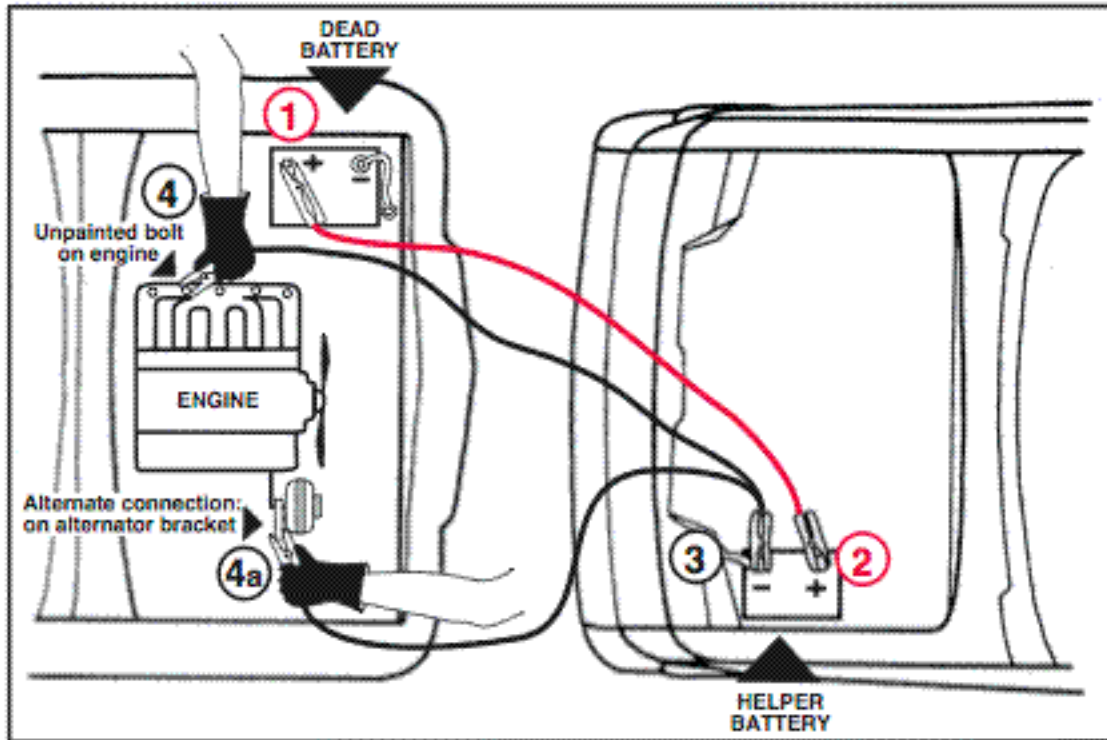

Fig. 1: Proper order for jump-starting car
STEP 5: Identify battery terminals or jump start terminals, if your battery is not in the engine compartment (*Fig.1*):
STEP 7: Connect a red (positive) cable to the dead car's positive battery post or positive jump-start terminal. See Fig. 1, Step 1.
STEP 8: Connect the other end of the red (positive) cable to the live car's positive battery post. See Fig. 1, Step 2.
STEP 9: Connect one end of the black (negative) cable to the live car's negative battery post. Do not connect the other end of the negative cable to the dead car's battery post. See Fig. 1, Step 3.
STEP 10: Locate an unpainted metal part of the dead car's engine, away from the battery. The engine manifold is a good location. You can also use the air conditioner compressor bracket or the alternator bracket (the bracket is the piece of metal to which the compressor or alternator is attached), but be careful to avoid moving parts, such as belts. See Fig. 1, Step 4 or 4a.